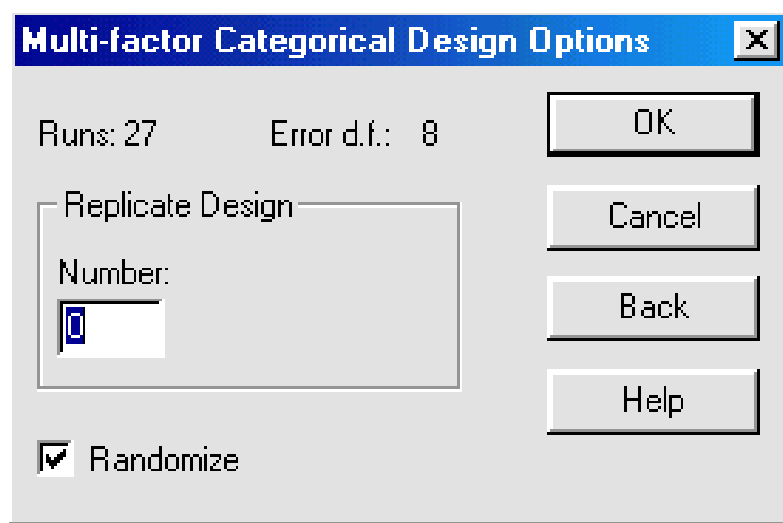

Figure 9-4. Multi-Factor Categorical Design Options Dialog Box
7. Click OK to display the Multi-Factor Categorical Design Options dialog box shown in Figure 9-4.
Use the Multi-Factor Categorical Design Options dialog box to make changes to the design. See Figure 9-4 for an example of this dialog box.